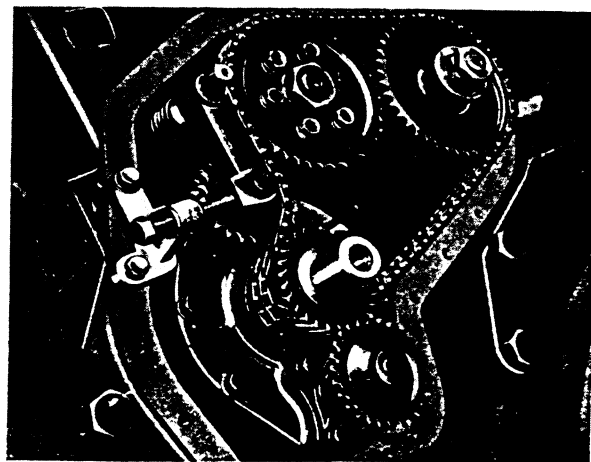

FIG. 133.
5. Set valve timing, see page C118, refitting camshaft chainwheel and timing chain and tension chain using Service Tool FT.84A. Fig. 133.
jockey chainwheel carrier as shown in Fig. 133. Tighten adjusting screw finger tight to take up the slackness in the chain.
12. Fit chain tensioner FT.84A, using appropriate timing cover set screw holes so that the adjusting screw bears at right angles against the pad of the jockey chainwheel carrier as shown in Fig. 133. Tighten adjusting screw finger tight to take up the slackness in the chain.